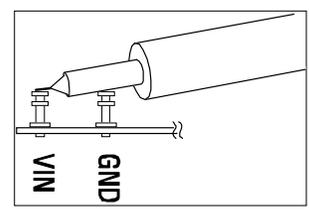

Figure 2. Measuring Input or Output Ripple
NOTE: When measuring the input or output voltage ripple, care must be taken to avoid a long ground lead on the oscilloscope probe. Measure the input or output voltage ripple by touching the probe tip directly across the V_{in} or V_{out} and GND terminals. See the proper scope probe technique in figure 2.
5. Set the load current of both outputs to 3A and the input voltage to 5.5V, and then measure each output ripple voltage (refer to figure 2 for proper measurement technique); they should each measure less than 30 mVAC. Also, observe the voltage waveform at either switch node of each regulator. The switching frequencies should be between 1.85 MHz and 2.65 MHz ($T = 540$ ns and 374 ns). In all cases, both switch node waveforms should be rectangular in shape, and 180° out-of-phase with each other. Change the shunt position on header J5 to set the switch waveforms in phase with respect to each other. To operate the ckt.s in Burst Mode™ or pulse-skip mode, change the shunt in header J7. When finished, insert shunts XJ1 and XJ2 to the OFF position(s) and disconnect the power.